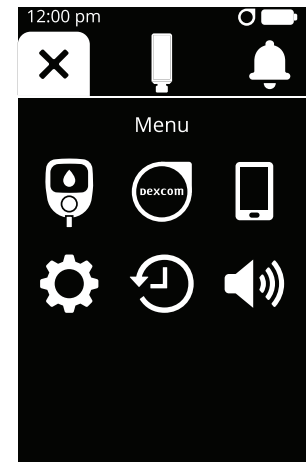

Figure 31
- b. Tap the **Volume** icon (see Figure 31).